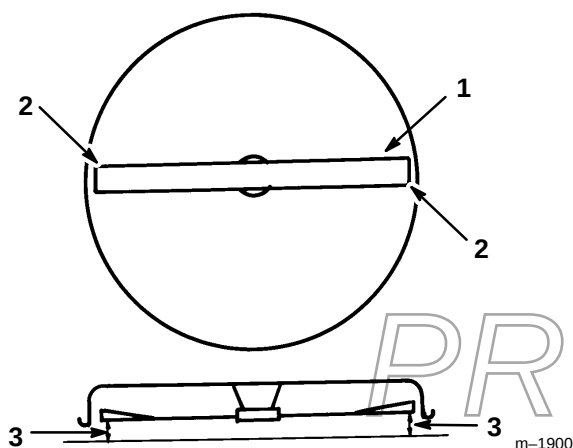

Figure 46
4. Carefully rotate blade(s) side to side (Fig. 46). Measure between the outside cutting edges and the flat surface (Fig. 46). If both measurements are not within $\frac{3}{16}$ ” (5 mm), an adjustment is required; refer to steps 5 and 6.